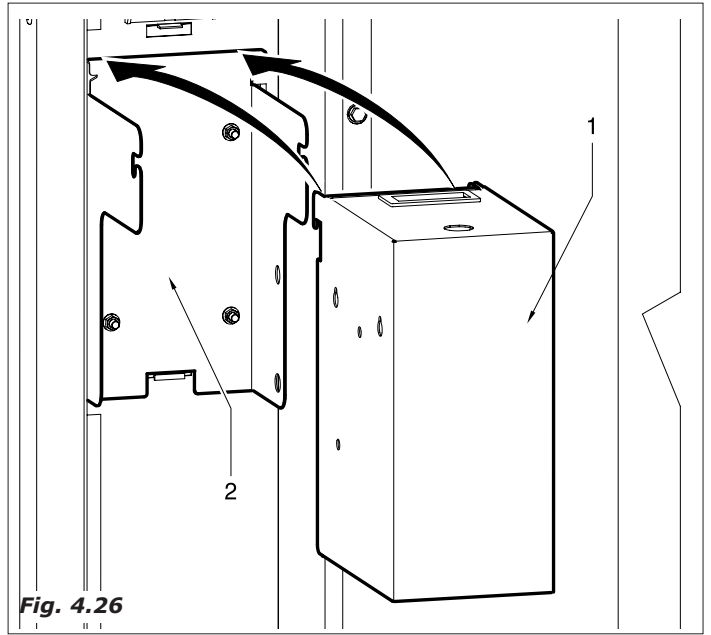

Fig. 4.26
- hook the coin mechanism (Fig. 4.26-pos.1) on to the support brackets (2)